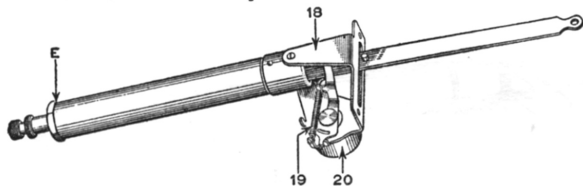

Fig. 4
- a. Examine the spring 19, Fig. 4, to see that it is properly connected to the switch lever.
5. If the lid still closes too fast, there is probably leakage around the joint at E, Fig. 4.